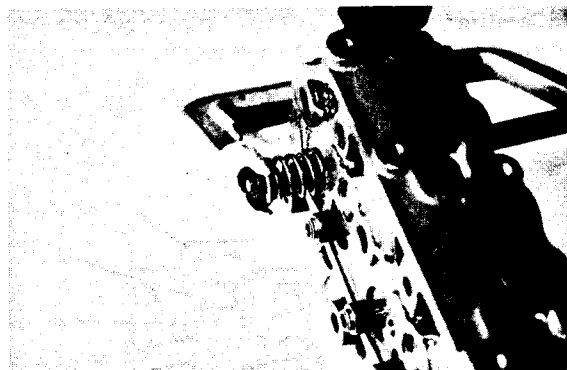
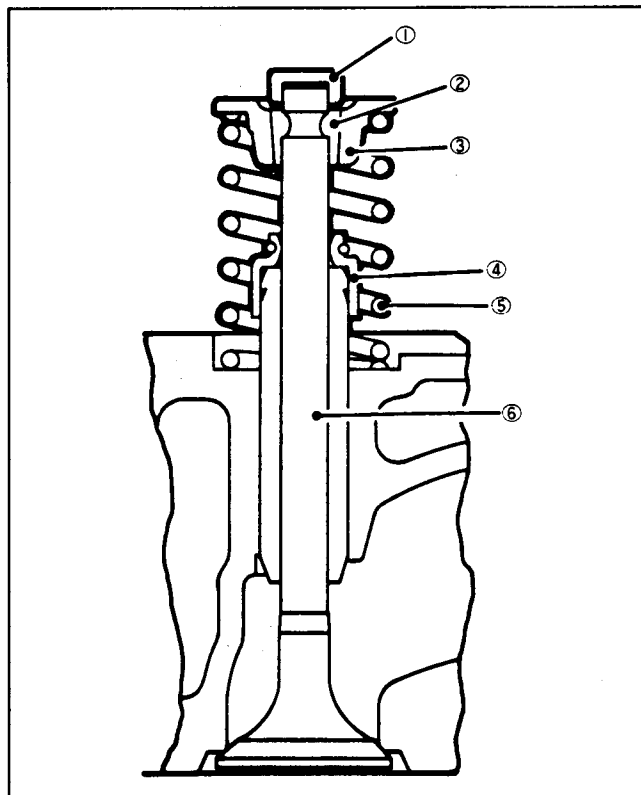

Figure 71
Figure 72
1. Use a valve lifter tool to compress the valve spring (Fig. 71). To remove each valve retainer, depress the retainer against the valve spring and remove the retainer lock (Fig. 72). Remove the valve retainer, spring and valve. Keep each valve and other parts for each cylinder separate so they can be reinstalled in the same cylinder.